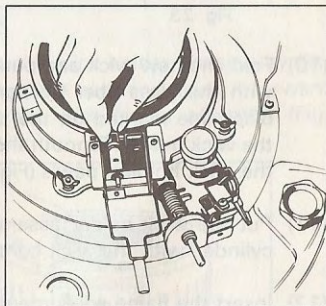

Fig. 28
- To remove ignitor, hold and turn it to left while pushing in (Fig. 28).